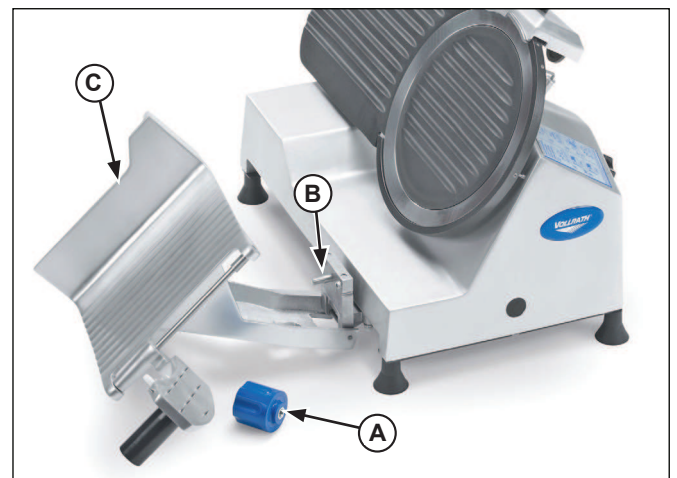

Figure 2. Tray Knob, Stud and Product Tray
4. Remove the tray knob (A) from the stud (B) and pull the product tray (C) out. See Figure 2.
9. Use the knob (B) lift the sharpening assembly (A) and rotate it 180° to the slice position. See Figure 2.